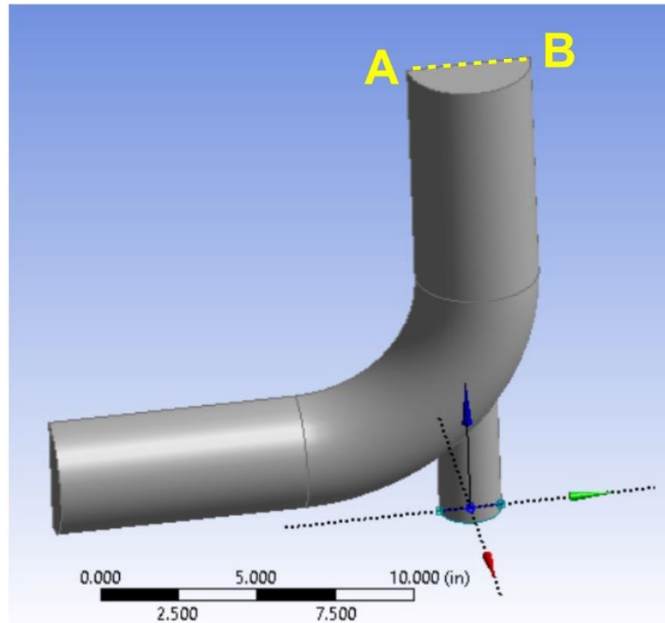

Fig. 1 The modified geometry. The line \overline{AB} is defined for Task 2.
- (i) Follow Step 7 in Tutorial #1 to enlarge the "side pipe". Instead of 0.75 in as used in the tutorial, increase the radius of the pipe to $R = 1.0$ in (i.e., increase the diameter of the pipe to 2.0 in). To ensure a smooth connection between the side pipe and the main pipe, when the radius of the small pipe is increased to 1.0 in one should also increase the "depth" of extrusion in step "x." in p. 1-15 of Tutorial #1. For example, change it from 4.0 in to 5.0 in. Figure 1 shows what the modified geometry should look like.
(D2) The line plots of the profiles of *temperature* and the *velocity component normal to the surface of outlet* (not to be confused with "velocity magnitude") along the line, \overline{AB} , as indicated in Fig. 1. This is the line on the plane of symmetry that passes through the center of the outlet. Please make two separate plots for the profiles of temperature and velocity. Please clearly label the abscissa and ordinate of the plot.